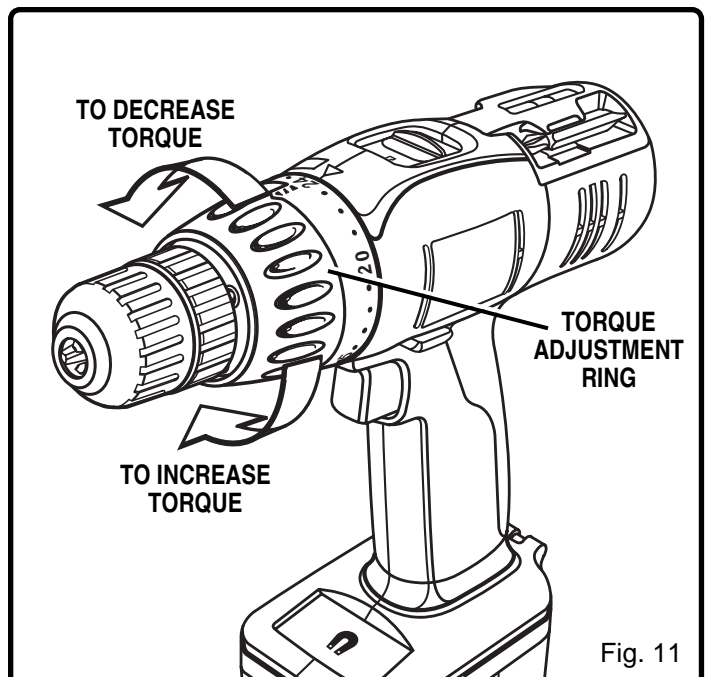

Fig. 11
The torque is adjusted by rotating the torque adjustment ring. See Figure 11. The torque is greater when the torque adjustment ring is set on a higher setting. The torque is less when the torque adjustment ring is set on a lower setting.
- Identify the twenty four torque indicator settings located on the front of your drill. See Figure 11.